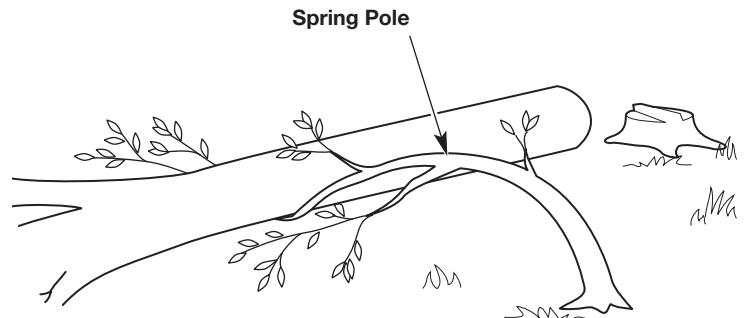

Fig. 15
**WARNING:** Stay clear of spring poles when operating the unit. Spring poles are branches, logs, roots or saplings that are bent under tension by other wood (Fig. 15). When the tension is released, spring poles can strike the operator, causing serious injury and potentially knocking the chain saw into the operator's body. Use extreme caution when cutting spring poles or when releasing the cause of tension.